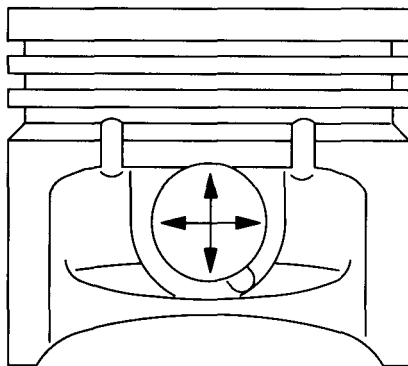

Fig. 5 - Check Piston Pin Bore
3. Check piston pin bore, Fig. 5.